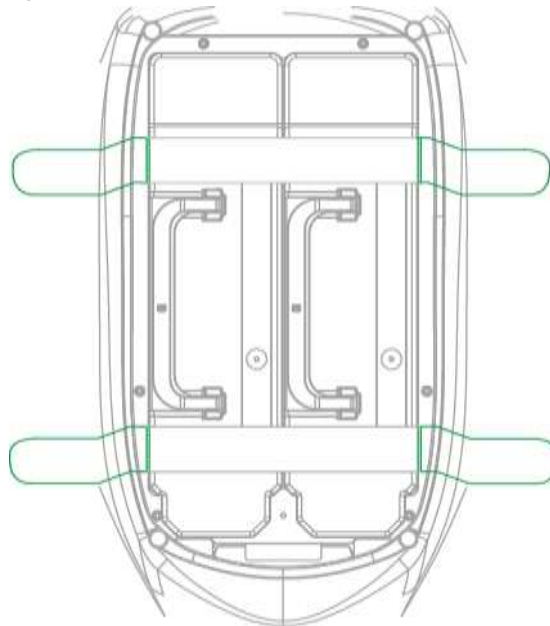

Figure 5-6
Step 2 Unfasten the fixing band and take out the battery, as shown in Figure 5-6.